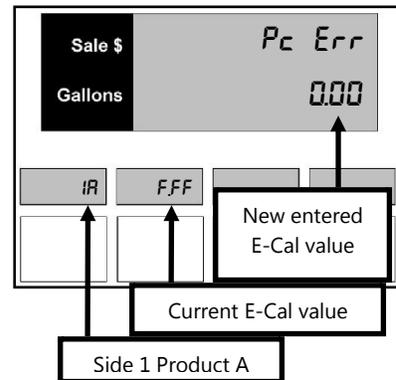

Figure 27.8 – Direct Percentage Entry
3. The main display now shows the test can size entry prompt. Press the ↑ button to bypass the test can prompt and access the direct percentage entry menu as shown in *Figure 27.8*.